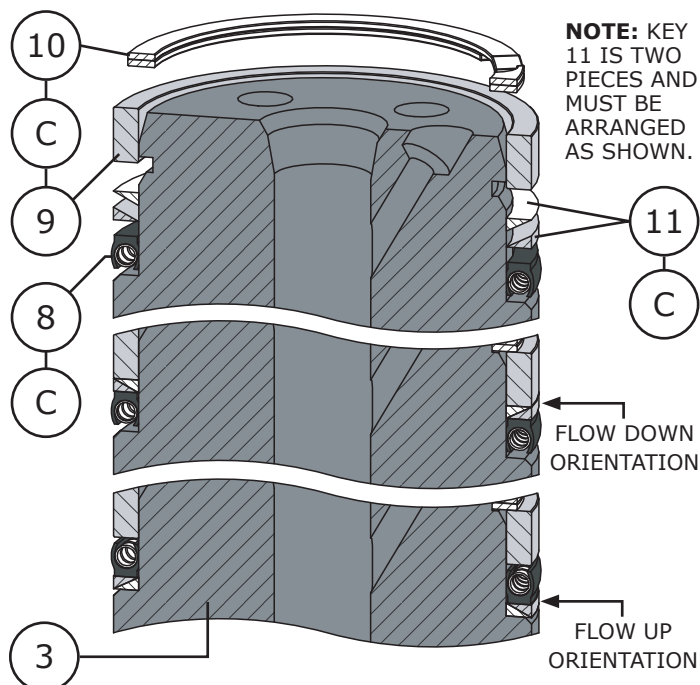

Figure 19 Plug Seal Assembly with Anti-Extrusion Ring
- 3 Apply Lubriplate® No. 105 (Key C) to the anti-extrusion ring (Key 11) and install the anti-extrusion ring on to the valve plug as shown in Figure 19. **NOTE:** Anti-extrusion rings are only used for valve assemblies rated to exceed 450°F (232°C).